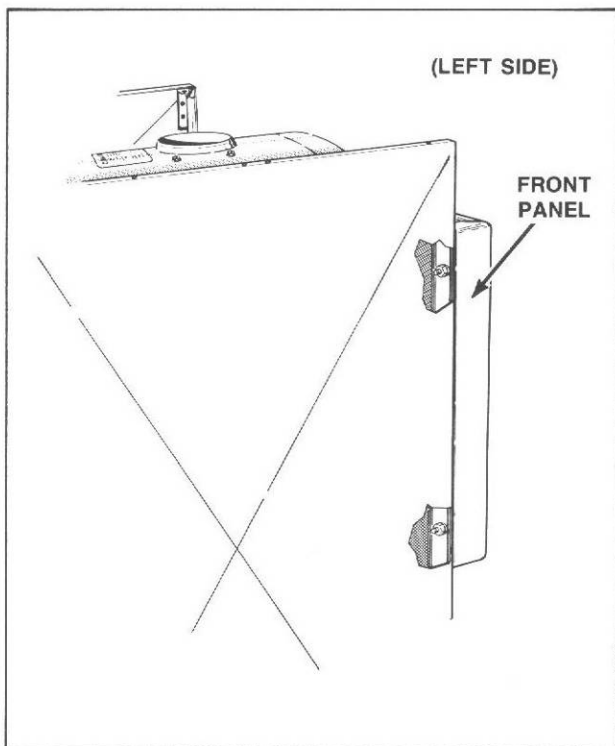

Figure 12
- Remove two nuts and lockwashers, *Figure 12*, holding front panel assembly to left leg (leave bolts in place).